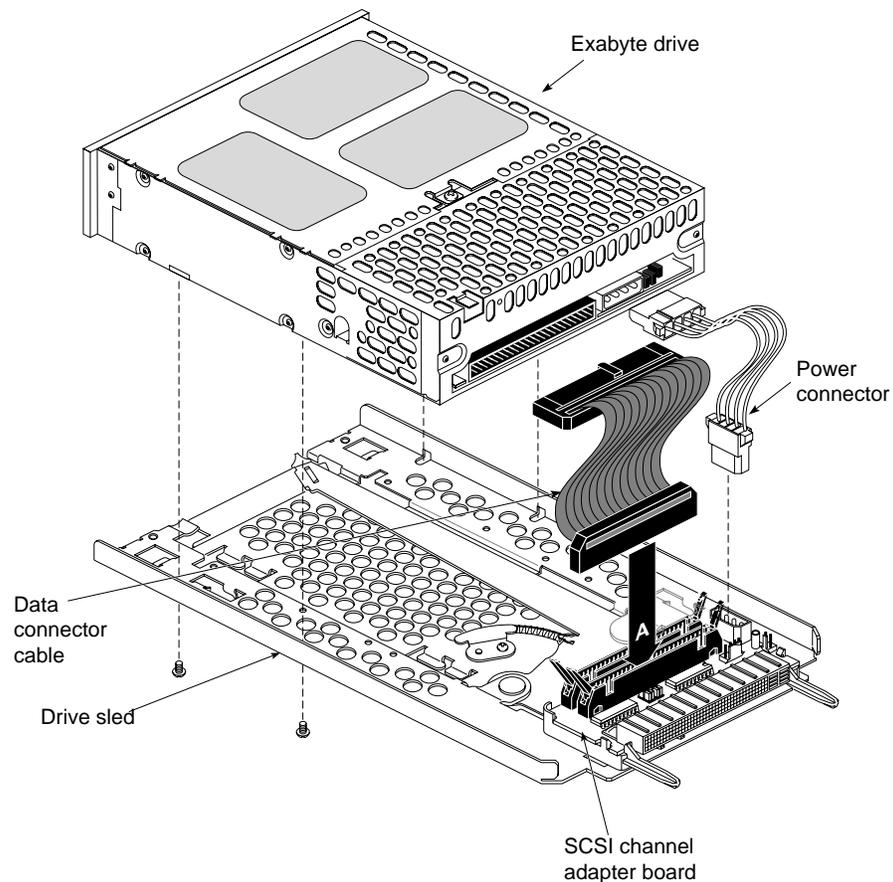

Figure 1-1 Removing/Installing the Drive From/On the Drive Sled
1. Remove the four screws that secure the drive to the bottom of the mounting sled (see Figure 1-1) and set them aside.
2. Remove the drive adapter and power cables from the 8505XL (see Figure 1-1) and then place the drive on an anti-static surface.
- After changing the SCSI ID, place the tape drive back on the drive sled (see Figure 1-1).
- Reconnect the drive adapter and power cables (see Figure 1-1).
7. Install the four screws that secure the bottom of the drive to the drive sled (see Figure 1-1).